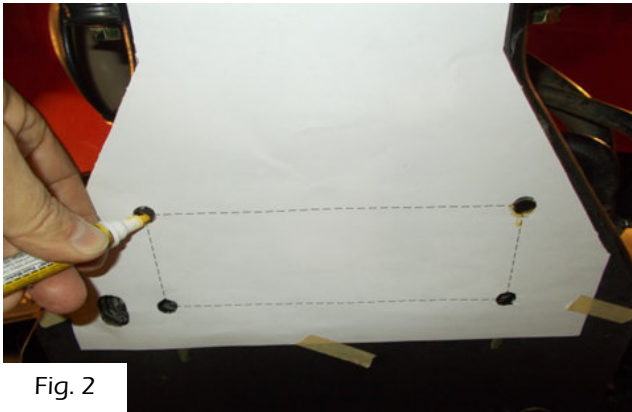

Fig. 2
- 3) Align the various marks of the template on the protection plate, and mark the mounting holes (see Figure 2).